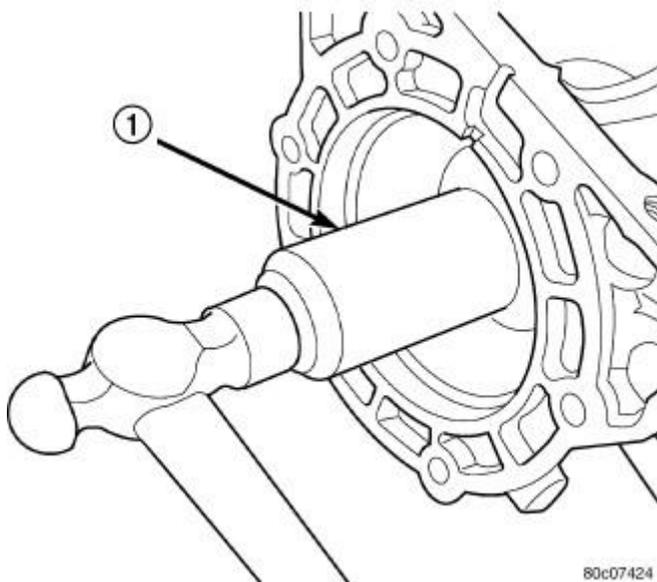

Fig. 190: Installing New Oil Seal In Adapter Housing
- Install new oil seal in the adapter housing using Seal Installer (special tool #C-3860-A, Installer, Seal) (1). Refer to **Fig. 190**. A properly installed seal is flush to the face of the seal bore.